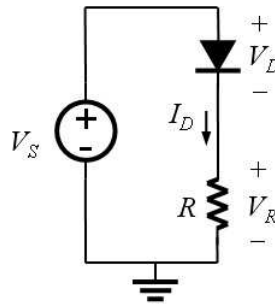

Figure 5: Circuit for diode i - v measurements.
- (A) Construct the circuit shown in Fig. 5. You have at your disposal your DC power supply, and a variable resistance R (we recommend you use values of $100\text{k}\Omega$, $27\text{k}\Omega$, $8.2\text{k}\Omega$, $4.7\text{k}\Omega$, $2.2\text{k}\Omega$, and 820Ω — this is more straightforward than using a pot and measuring its value every time you turn the knob).
- (B) Given this circuit, come up with a scheme to measure the diode’s i - v curve. Think about these questions to help guide you:
- For a given setting of V_S and R in Figure 5, how can you calculate the current and voltage through the diode by making a single measurement?